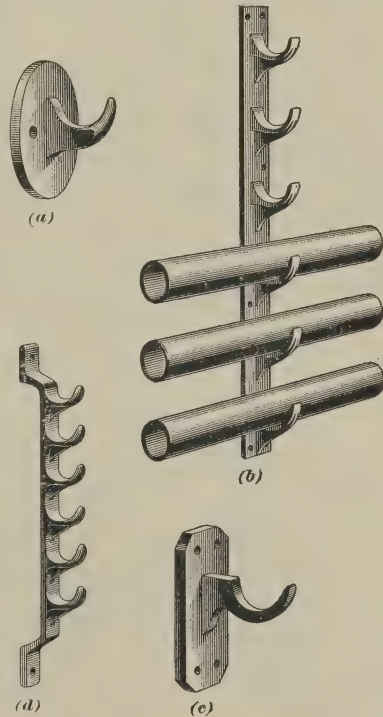
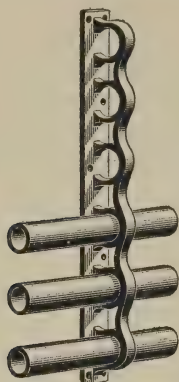

FIG. 51
FIG. 52
**72. Hook plates** are used to support heating pipes where they are assembled in the form of coils, or other pipes that run parallel to one another. In Fig. 51 (a), a **single hook plate** of the common pattern is shown; a **multiple hook plate** of the same pattern is shown in Fig. 51 (b); a **single offset hook plate** is shown in Fig. 51 (c), and a **multiple offset hook plate** is shown in Fig. 51 (d). The ends are offset so that the pipes will be held clear of any small projections on the face of the wall. Hook plates are fastened to the walls with screws or expansion bolts. Care should be taken in ordering hook plates to state the size and number of hooks, which latter are
generally called **branches**; thus, *one ten-branch 1¼-inch hook plate*, or *one single 1¼-inch hook plate*. If offset plates are to be used, state *one ten-branch 1¼-inch hook plate, offset ends, 1½ inches* (or as much as required). Offset hook plates are usually made to order. Hook plates similar to those shown in Fig. 51 can be had pressed out of sheet steel.
**73. Ring plates** have a ring for the pipe, as shown in Fig. 52, instead of the hook shown in Fig. 51. They are used in places where pipes would fall out if hooks were used, as at ceilings and on ships.